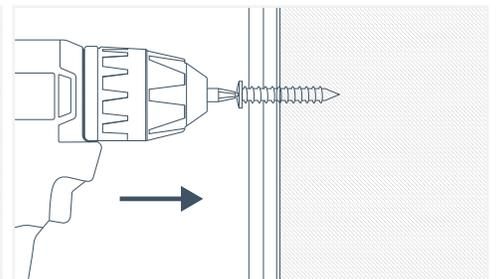

Fig. 3
- Screws must be installed straight and level to allow for movement (Fig 3)